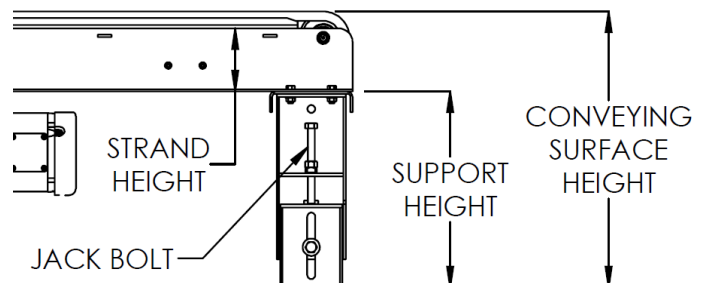

Figure 1.1 – Support Height Adjustment
- Set the support height using the adjustable jack bolt – see *Figure 1.1*. To adjust, either screw or unscrew the jack bolt. This will raise or lower the support.